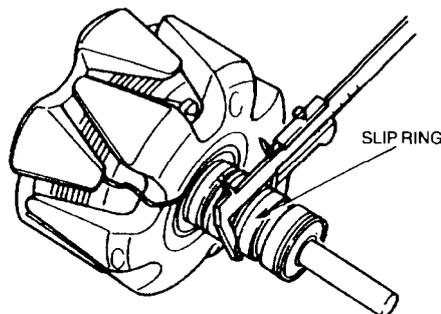

Figure 292 Measuring the Slip Rings
- (1) Clean all components in a suitable cleaning agent and blow them dry with compressed air.
- (2) Check the bearings and seals for damage or excessive wear and replace parts if necessary.
- (3) Using a vernier caliper, measure the outside diameter of the slip rings (Figure 292). The measurement must be between 33.6 to 34.6 mm (1.31 to 1.36 in). If the slip rings are outside the specification, replace the rotor assembly.